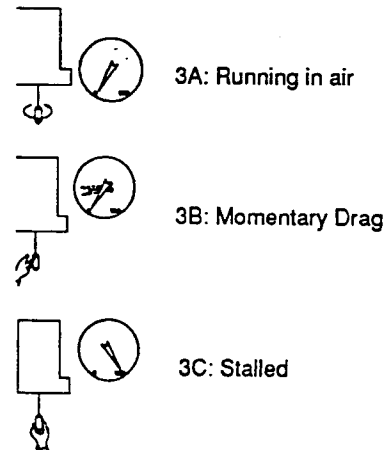

Figure 15: Three Point Test
- 3) Perform the following three checks to determine Viscosel operating condition (re. figure 15):